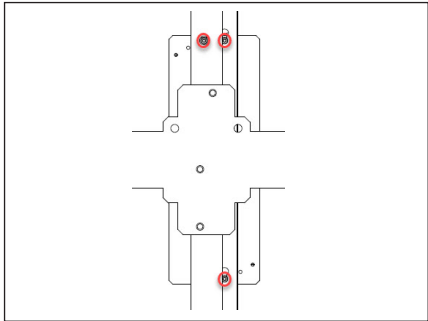

Figure 42: Remove Power Supply
- 4. Loosen the TORX® drive mounting screws and life the power supply off of the key holes. Refer to **Figure 42**.